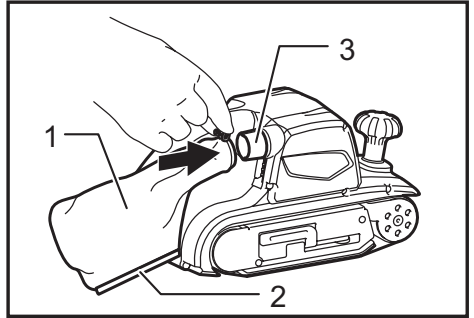

Fig.6
► Fig.6: 1. Dust bag 2. Fastener 3. Dust spout